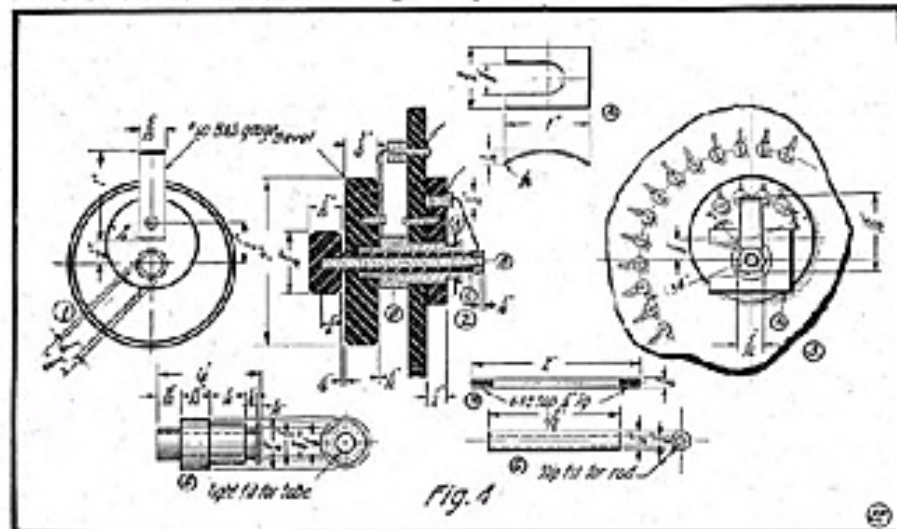

Fig. 4. Parts Making Up "Primary" Switch of Coupler.
The parts of this switch must be turned out exactly. Fig. 4 gives the details. (1) shows the underside of the handle; (2) is a section through the switch; (3) is the back side of the switch, showing the compensator.